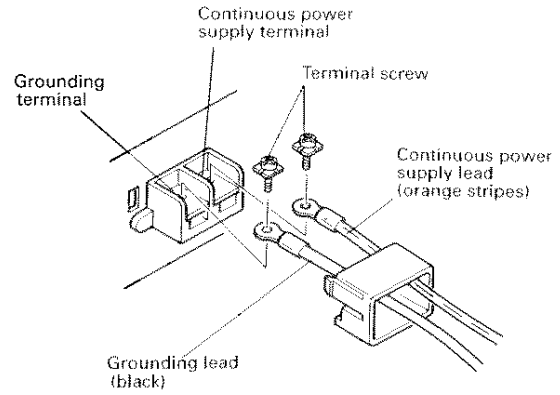

Fig. 5
3. Replace the screws removed in step 2 in the terminals and tighten them. (Fig. 5)